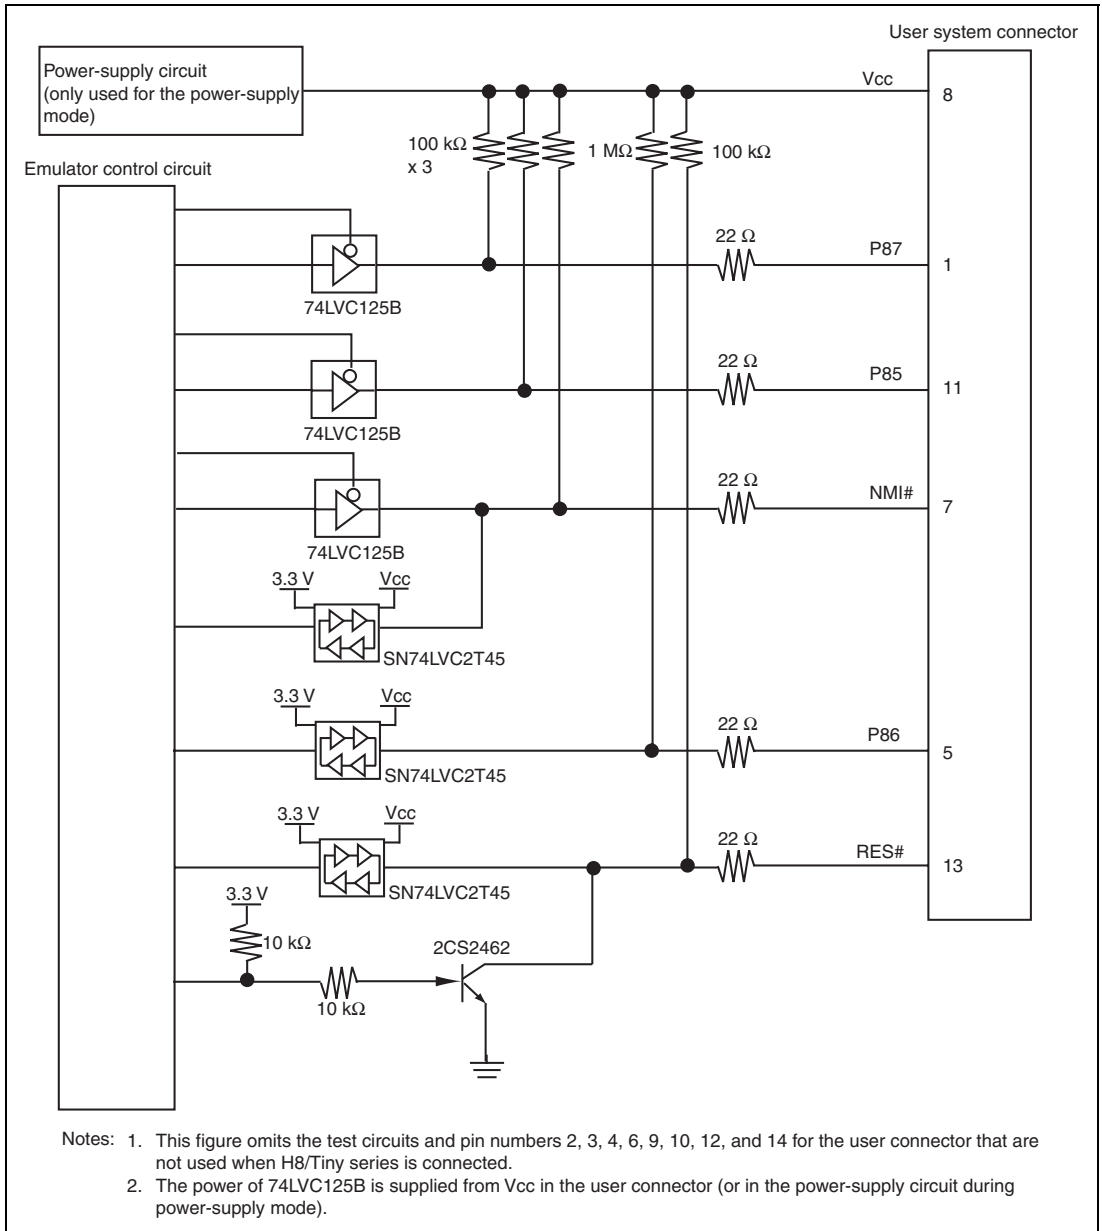

Figure 4.6 Interface Circuit in the E8a Emulator (Reference)
6. Figure 4.6 shows the interface circuit in the E8a emulator. Use this figure as a reference when determining the pull-up resistance value.